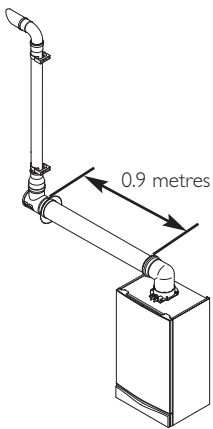

Fig. 22
9. The 60Ø exhaust can now be fitted. Slide the adaptor over the plain end of the 60Ø exhaust (Fig. 22) and engage the exhaust in the terminal. Slide the adaptor down over the spigot. Mark and drill the adaptor, using a 2mm bit, as shown in Fig. 21. Secure the adaptor to the spigot using one of the screws supplied.